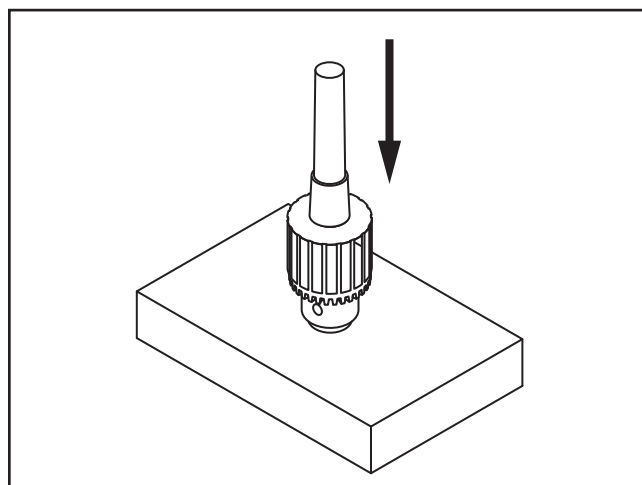

Figure 48. Tapping drill chuck/arbor on block of wood.
4. Hold assembly by the arbor and tap chuck onto a block of wood with medium force, as illustrated in **Figure 48**.